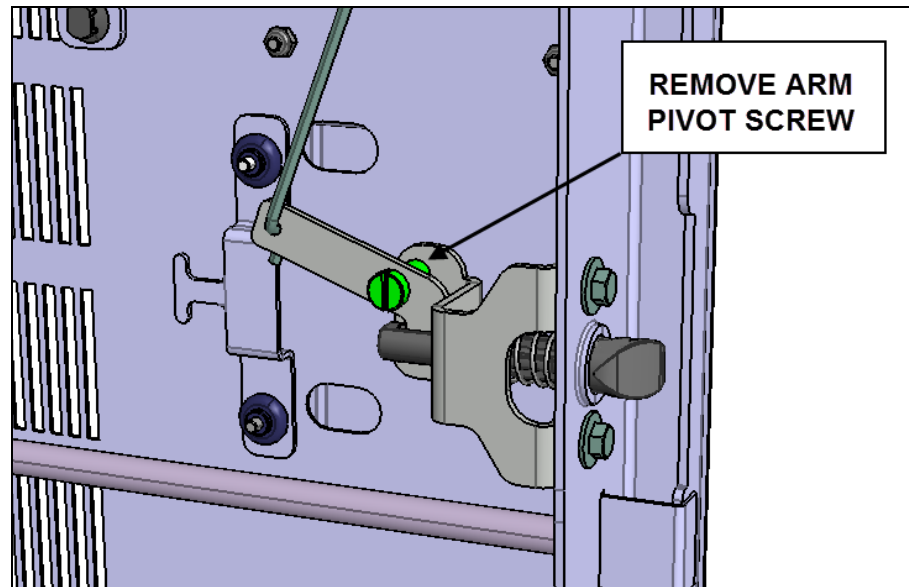

FIG.19 PIVOT SCREW
17. Remove the pivot screw securing the actuating arm to the latch bracket (Fig.19)